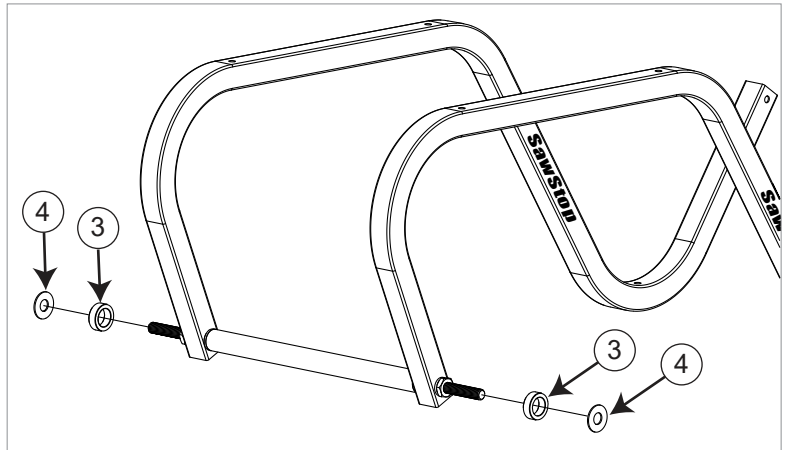

Fig. 4
4. Install one plastic spacer and one M17.5 x 40 washer over each end of the wheel axle as shown in Fig. 4.